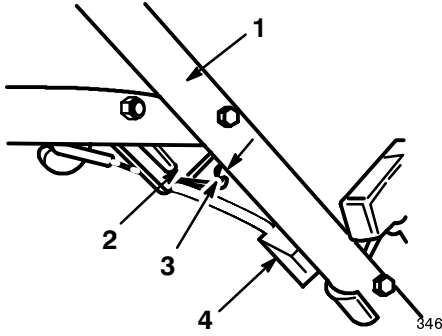

Figure 35
- Loosen the nut on the cable bracket (Fig. 35).